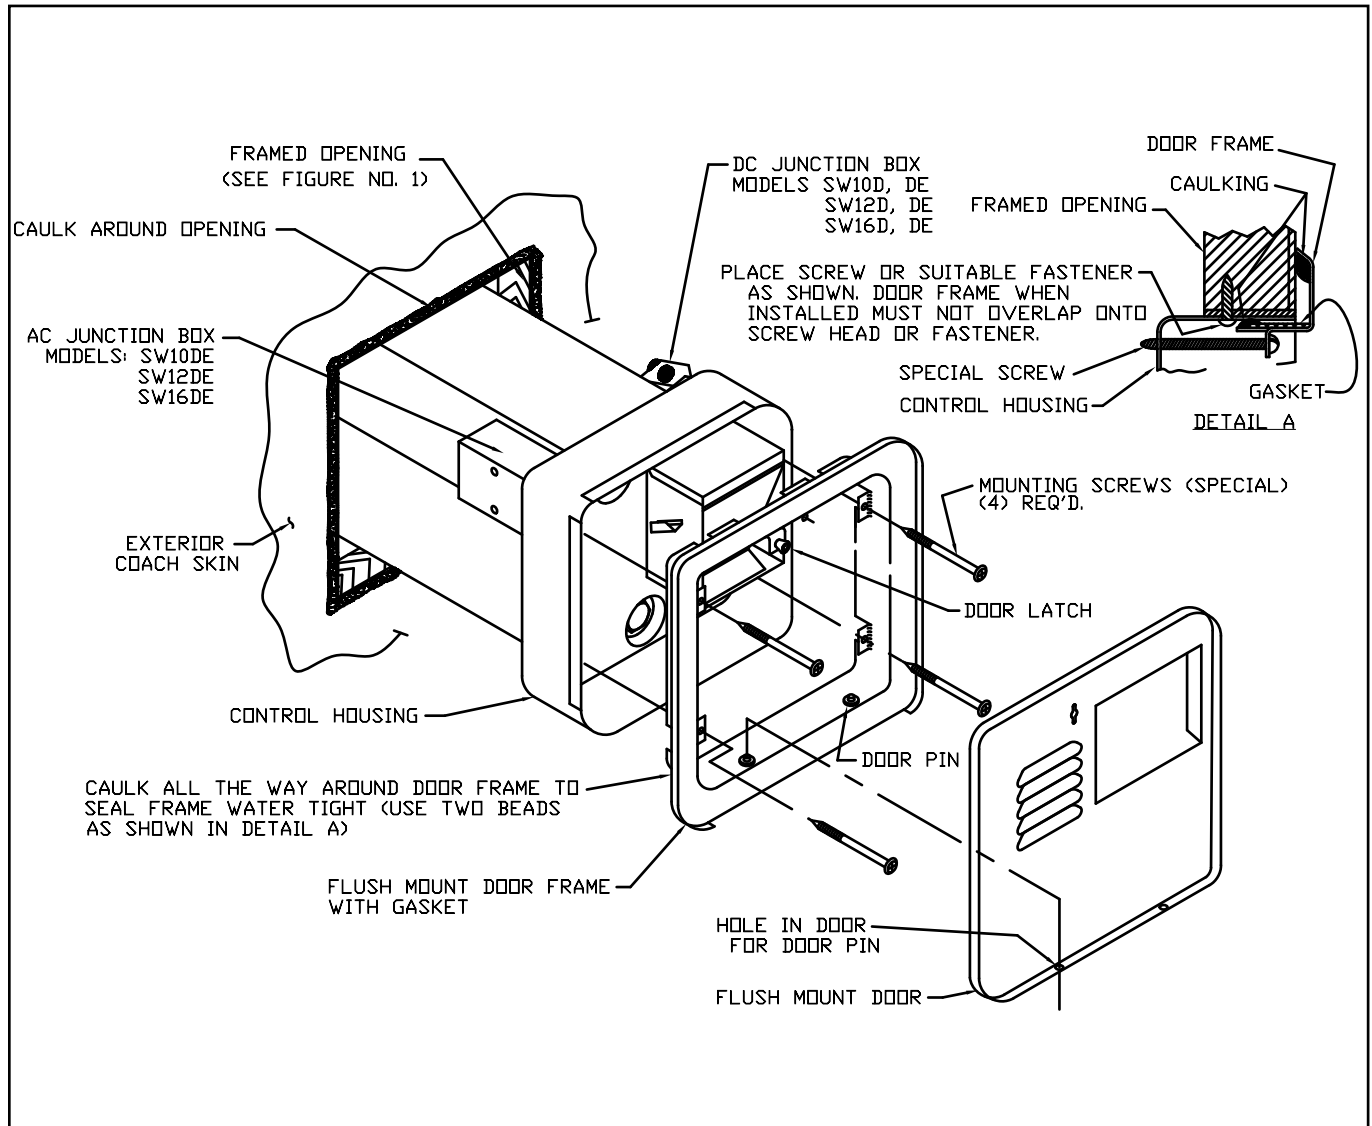
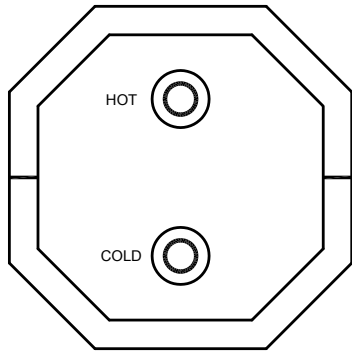
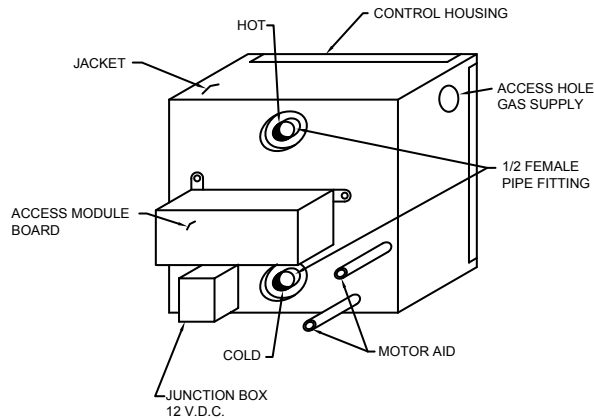
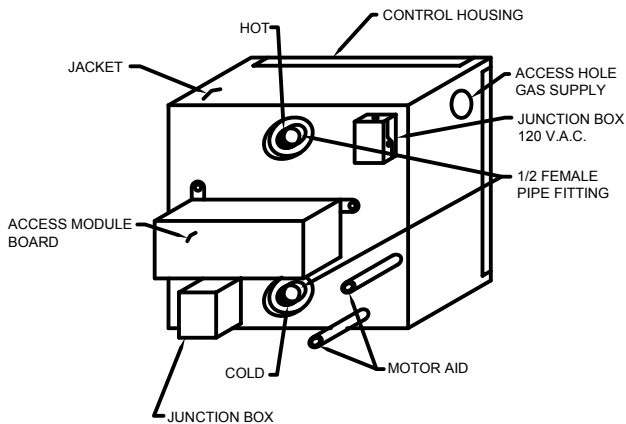

Figure 2
Figure 3
Figure 4
Figure 5
(See Figure 2 for Illustration)
**A.** Water connections are made at the rear of the water heater. Refer to Figure 3 for all models except SW10DM, SW10DEM, SW12DEM and 16DEM. For SW10DM and SW10DEM, SW12DEM AND SW16DEM, refer to Figure 4 or 5. Connect the hot and cold water lines to the 1/2" female pipe fitting provided on rear of tank. These fittings are marked "HOT" and "COLD". **NOTE:** Inside each fitting is a plastic fill tube. Its purpose is to enhance water circulation. **DO NOT REMOVE PLASTIC FILL TUBE.**
**B.** Refer to Figure 2 for location of D.C. junction box on models SW10D, SW10DE, SW12D, SW12DE, SW16D and SW16DE. Refer to Figure 4 and 5 for location of D.C. junction box on models SW10DM, SW10DEM, SW12DEM and SW16DEM.
**B.** Refer to Figure 2 for location of A.C. junction box on models SW10DE, SW12DE or SW16DE. Refer to Figure 5 for A.C. junction box on model SW10DM, SW10DEM, SW12DEM or SW16DEM.